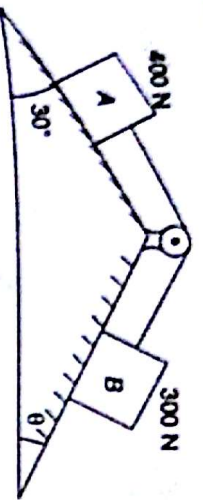

Fig. 3.57
- 3.4 A rope connects two masses A and B which rest on two inclined planes as shown in the Fig. 3.57. Planes